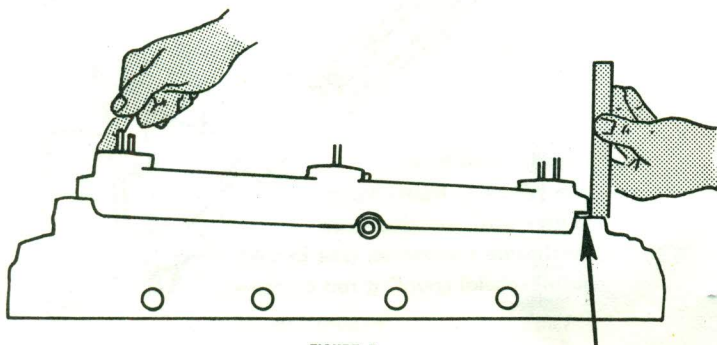

FIGURE 5
*See figure 5 . . . Now to space up the special manifold to obtain the proper relationship between the end ports and the stock manifold carburetor flange. Don't place the O rings in the manifold at this time. Place a sufficient number of furnished gaskets on the carburetor flange of the stock manifold to produce a rocking motion or vertical movement of 1/16" at either end of the manifold while pushing down on the other end. This is to give you the proper crush on the O rings when they are installed.